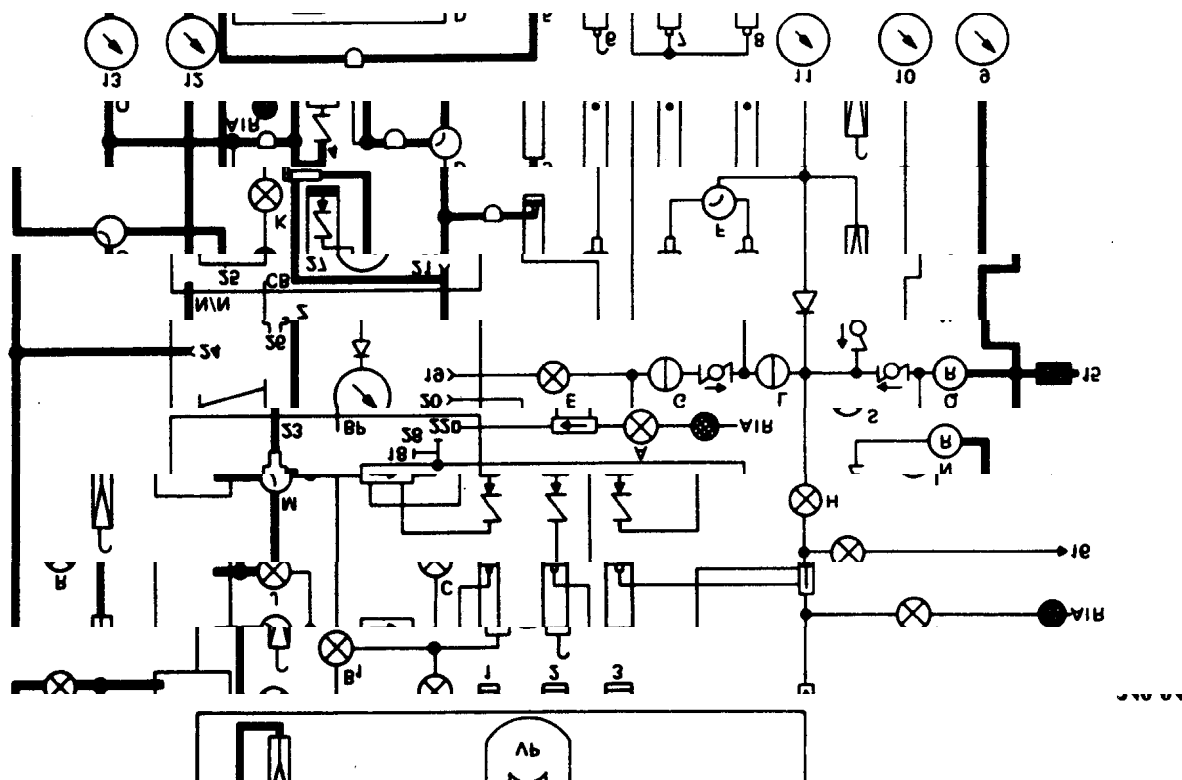

Figure 2-7.—Model 1172AS100 differential pressure indicating system.
The schematic for the differential pressure indicating system is shown in figure 2-7. The purpose of this system is to sense the difference in pressure between the outlet of the component being tested and the surrounding atmosphere, whether at sea level or altitude. You use this system when you perform safety-pressure, pressure-breathing, and flow-suction tests. Three manometers on the test stand indicate differential pressure: the pressure/suction manometer (4), the HG manometer (5), and the inclined pressure/suction manometer (25).